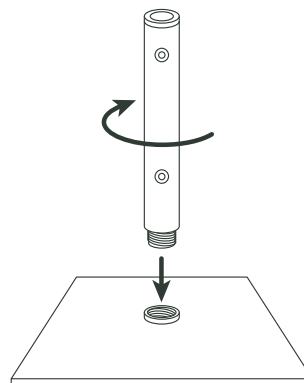

FIG. 3
1. Place the base flat on the ground, align the pole on the top of the base plate, and secure by screwing the pole into the base plate. (Fig. 3)